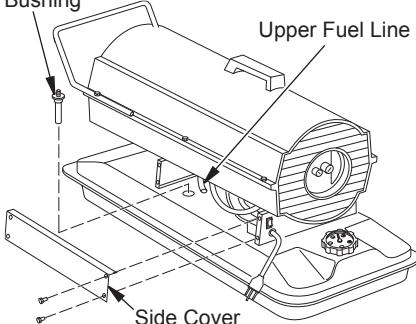

Figure 19 - Fuel Filter Removal, 40/55/70 Models
3. Pull upper fuel line off fuel filter neck (see Figure 19 or 20).
3. Remove 4 side cover screws with a 5/16" nut driver. Remove side cover (see Figures 19 or 20, page 11).
12. Replace side cover (see Figures 19 or 20, page 11).
2. Remove side cover screws using 5/16" nut driver (see Figure 19 or 20, page 11).